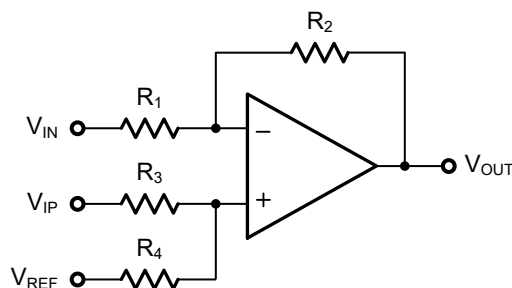
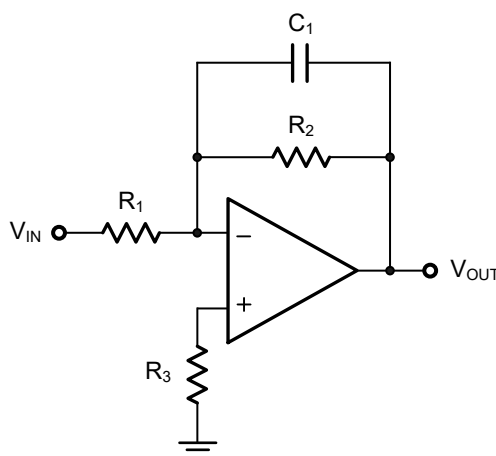

Figure 4-1 Differential Amplifier
Figure 4-2 Low Pass Active Filter
The SNA872X family is optimized for bandwidth and speed, not for driving capacitive loads. Output capacitance will create a pole in the amplifier's feedback path, leading to excessive peaking and potential oscillation. If dealing with load capacitance is a requirement of the application, the two strategies to consider are (1) using a small resistor in series with the amplifier's output and the load capacitance and (2) reducing the bandwidth of the amplifier's feedback loop by increasing the overall noise gain. Figure 4-1 shows a unity gain follower using the series resistor strategy. The resistor isolates the output from the capacitance and more importantly, creates a zero in the feedback path that compensates for the pole created by the output capacitance.
The circuit in Figure 4-2 is an improvement to the one in Figure 4-1. R_F provides the DC accuracy by feed-forward the V_{IN} to R_L . C_F and R_{ISO} serve to counteract the loss of phase margin by feeding the high frequency component of the output signal back to the amplifier's inverting input, thereby preserving the phase margin in the overall feedback loop. Capacitive drive can be increased by increasing the value of C_F . This in turn will slow down the pulse response.